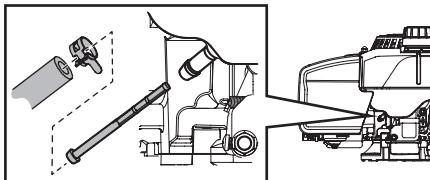

Figure 12
- Remove hose clamp from fuel line and remove fuel line from tank outlet (Figure 12).
- Grasp new fuel filter from shouldered end and insert it completely to the shoulder into the fuel tank outlet (Figure 12).